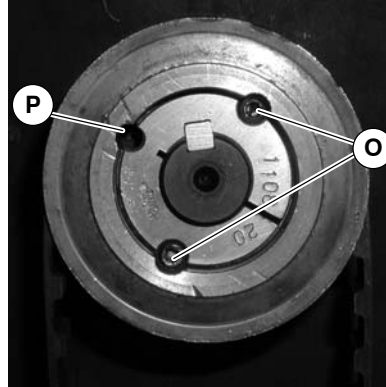

Figure 15
- b. Loosen taper set screws (O of Figure 15) on the driven pulley. Remove one set screw and insert in open hole (P). Tighten until pulley slides off drive shaft.